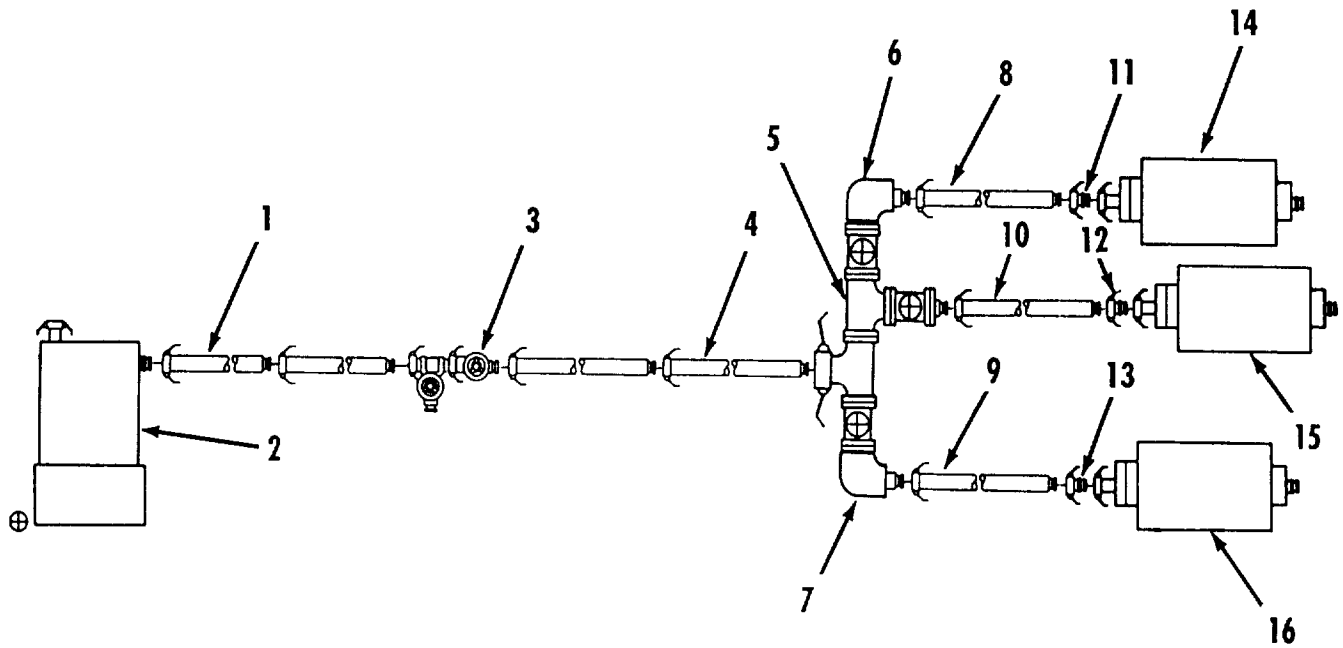

Figure 2-53. Fuel System - Secondary 600 GPM Pump Output to 200 GPM Filter-Separator Removal.
- I. Fuel System - Secondary 600 GPM Pump Output to 200 (PM Filter-Separator Removal). Refer to figure 2-53.